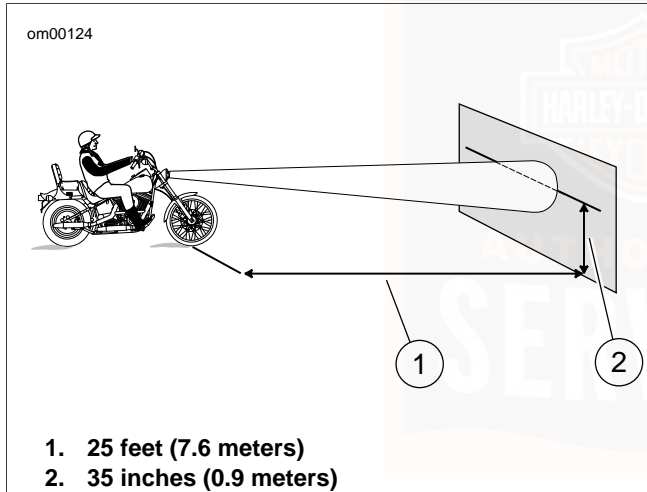

Figure 48. Headlamp Alignment: VRSC Models
3. See Figure 48. Position motorcycle 7.6 m (25 ft) away from a screen or wall. Measure the vertical distance from center of headlamp to floor, and draw a horizontal line (2) 35 in. (0.9 m) on screen or wall at same height above floor.